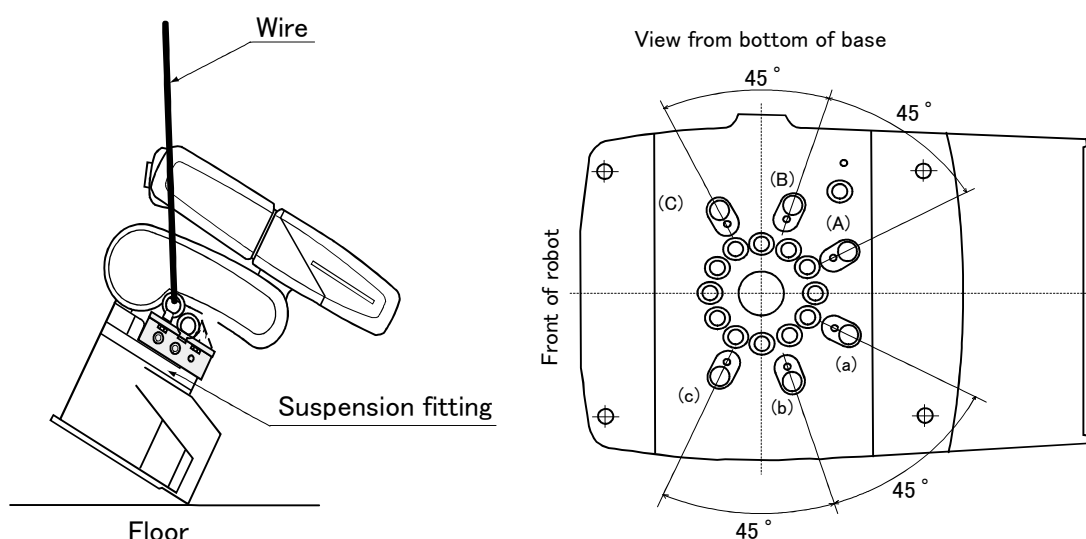

Fig.3-2 : Installation of operating range change option
Note) The insertion position given in the table indicates the insertion position for the operating range change stopper. (Refer to Fig. 3-2.)
- 1) Tilt the robot arm with a crane until the bottom of the base is visible as shown in Fig. 3-2.
- 2) Refer to Table 3-2 and Fig. 3-2, and insert the operating range change stopper into the angle position to be changed. Then, securely fix with the bolt (M4 x 20).